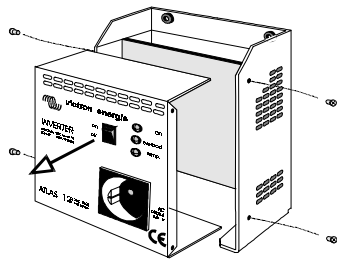

Figure 5.
- Open the casing by removing the screws on the left and right hand sides and then removing the cover, see figure 5.